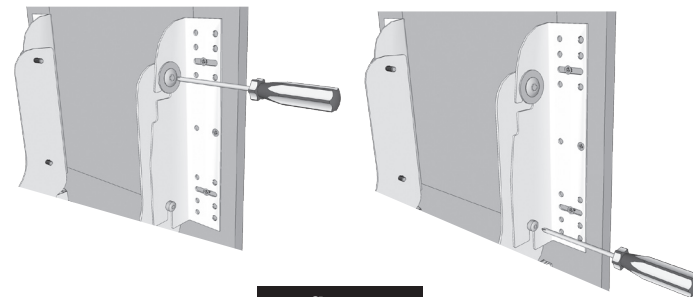

fig. 7
**Step 9.** Hang door with brackets attached on the mounting screws on the product member. Tighten bottom screws securely. Tighten top screws (with washer) snugly allowing for future adjustment. (See figure 7)